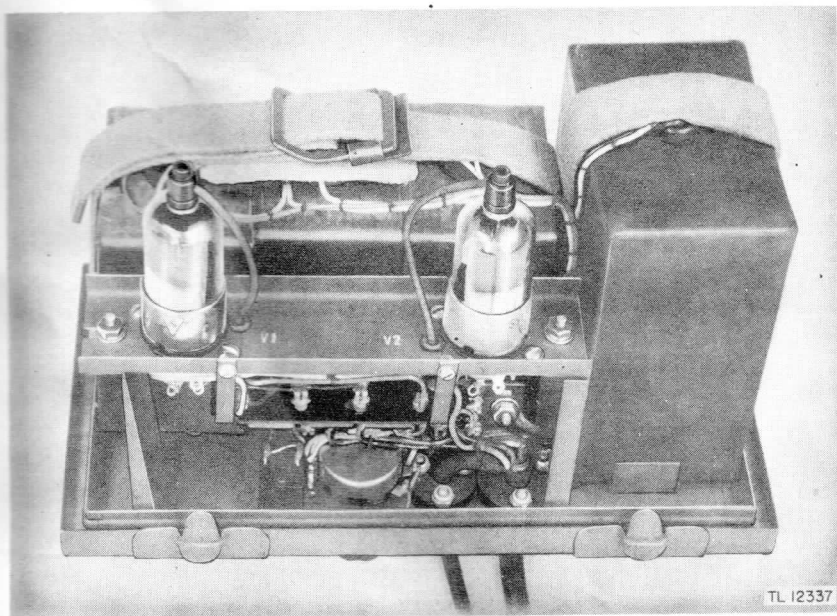

Figure 7. Amplifier Assembly AM-32/PRS-1, battery installation, battery hold-down strap in place.
- (5) Secure the batteries with the battery hold-down strap (fig. 7).